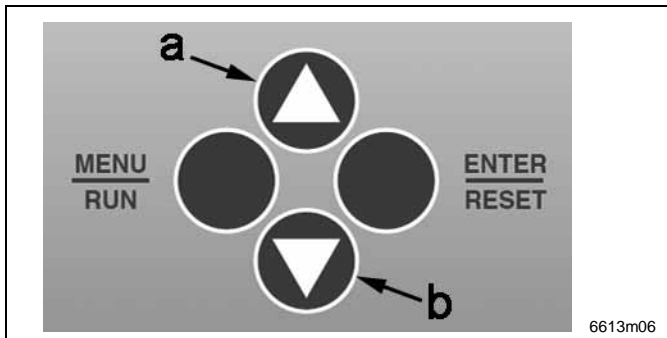

Fig. 27 Operating panel
*As soon as you press the "UP" key (pos. a, Fig. 27) outside of the configuration mode, the actual rest of the expired pause time is shown in the display.*
*The version number setting (0 - 1) is shown in the LMC 1 display and is made using the UP & DOWN keys on the operating panel (see pos. a & b, Fig. 27).*
- ➔ Complete your selection (0 - 1) with the ENTER key (Fig. 27).